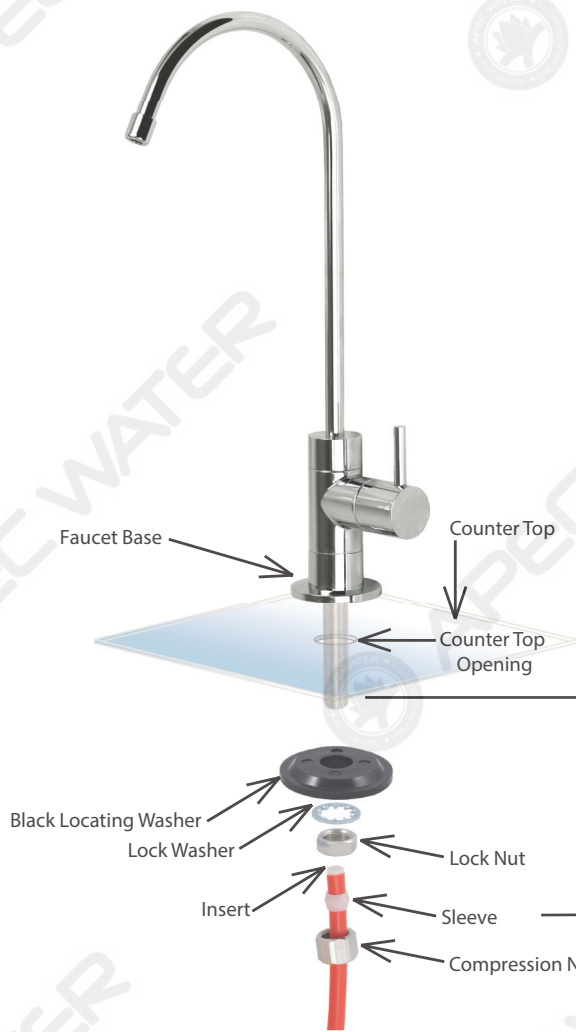

Fig. 9B
1. Mount the faucet as shown in **Fig. 9B (Page 12)**.
Fitting type: See **Fig. 9B (Page 12)**. Metal compression nut fitting. Use **plastic sleeve**.